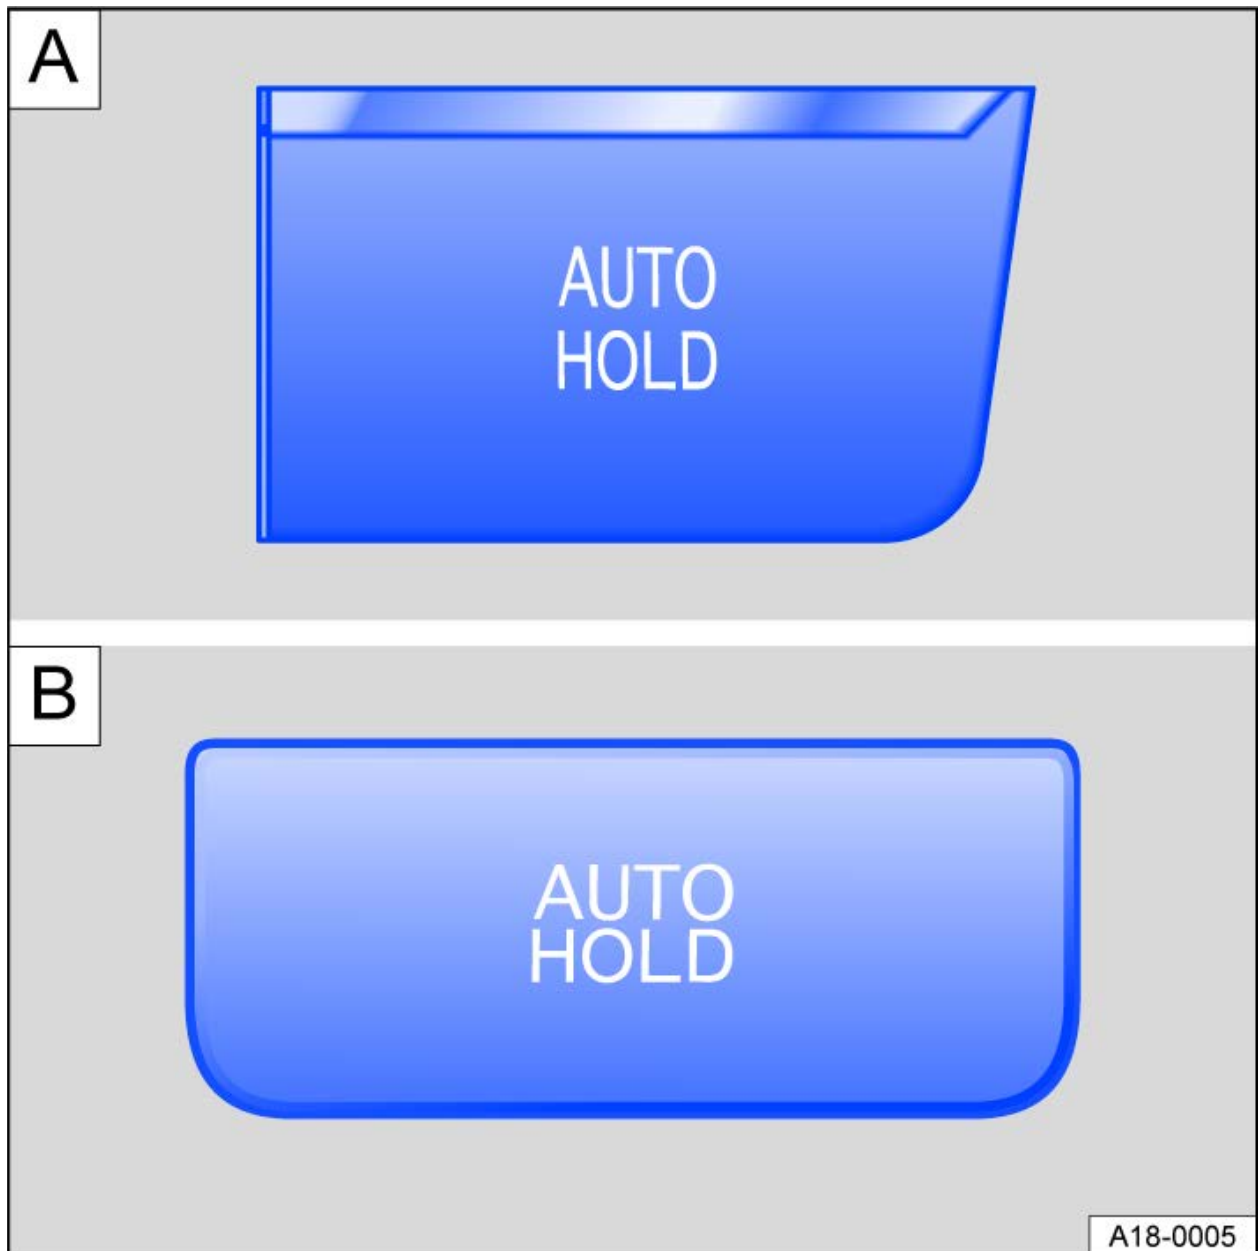

Fig. 1 In the center console: Button for Auto Hold for
- Press the **AUTO HOLD** button. The yellow indicator light in the **AUTO HOLD** → *fig. 1* button turns on. The white indicator light **AUTO HOLD** turns on in the instrument cluster. Auto Hold is ready to use, but the vehicle may not be kept stationary → ⚠.
- Press the **AUTO HOLD** button → ⚠. The indicator light in the **AUTO HOLD** → *fig. 1* button turns off.